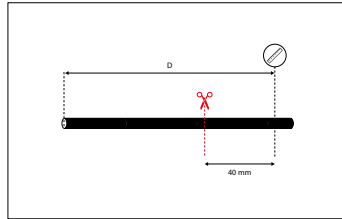

Fig. 27: Shortening the threaded rod
2. Shorten the threaded rod of the link rod. The length of the threaded rod must be 40 mm shorter than the distance measured in step 1 (Fig. 27)